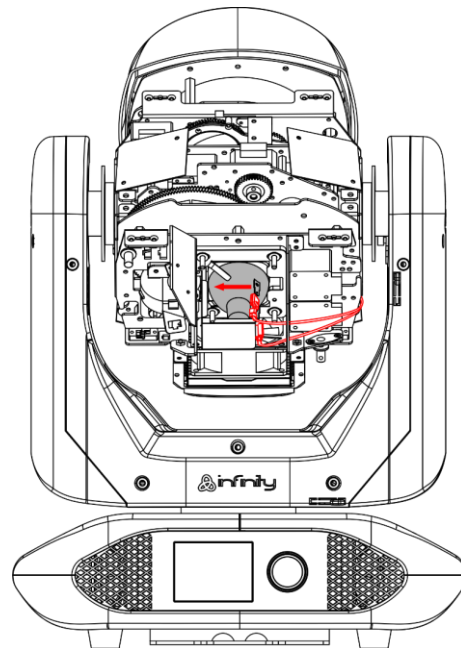

Fig. 04
- 05) Disconnect the 2 wires from the lamp terminals (Fig. 04).
- 06) Push the lamp carefully to the left against the 2 springs on the left side (Fig. 04).